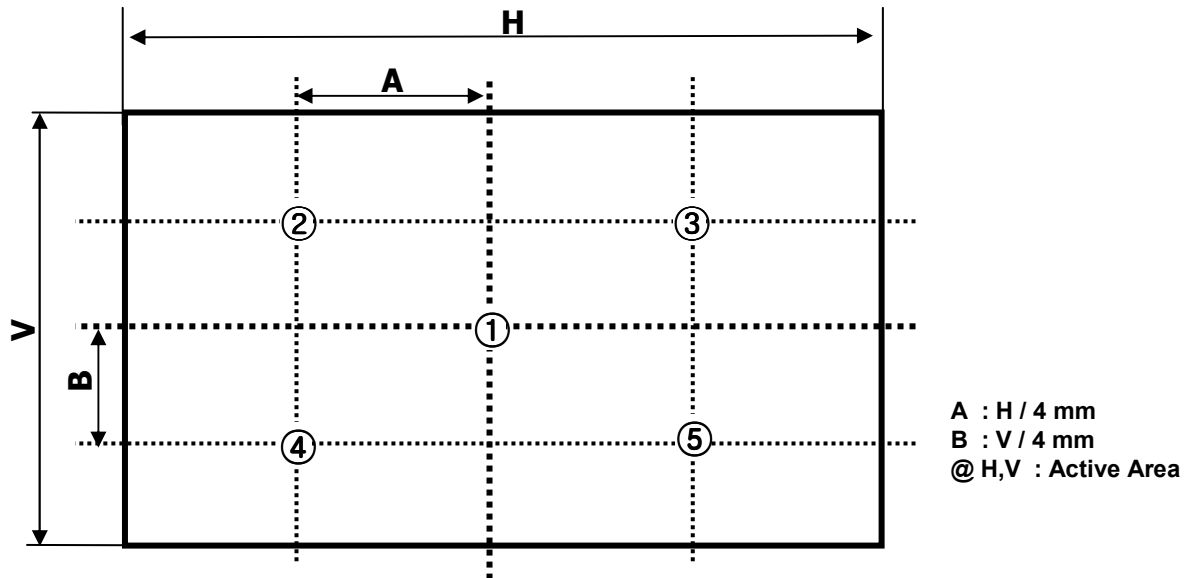

FIG.2 5 Points for Luminance Measure
2. Surface luminance are determined after the unit has been 'ON' and 1 Hour after lighting the backlight in a dark environment at  $25 \pm 2^\circ\text{C}$ . Surface luminance is the luminance value at center 1-point across the LCD surface 50cm from the surface with all pixels displaying white. For more information see the FIG. 2.
For more information, see the FIG. 2.